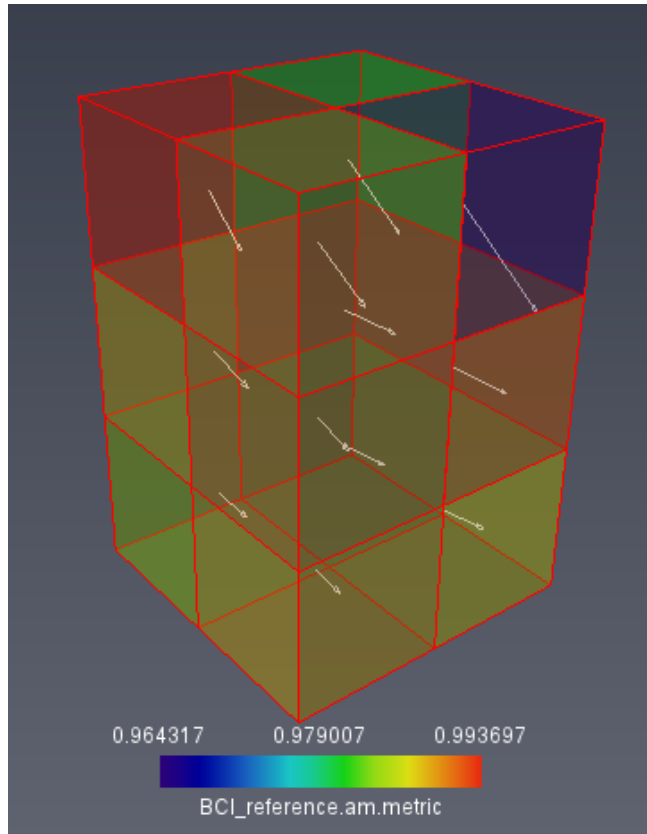

Figure 20.9: Metric Map and Displacement Vectors
- Visualize the displacement vectors by attaching a *Vector Field* module to *BCI_reference.disp*. Set the *Scale* port to 25 (open more options on *Scale* port line, and change *Max* value setting to 25), *Coloring* port to *Uniform* and select the white color from the port *Uniform color* (see Figure 20.9).